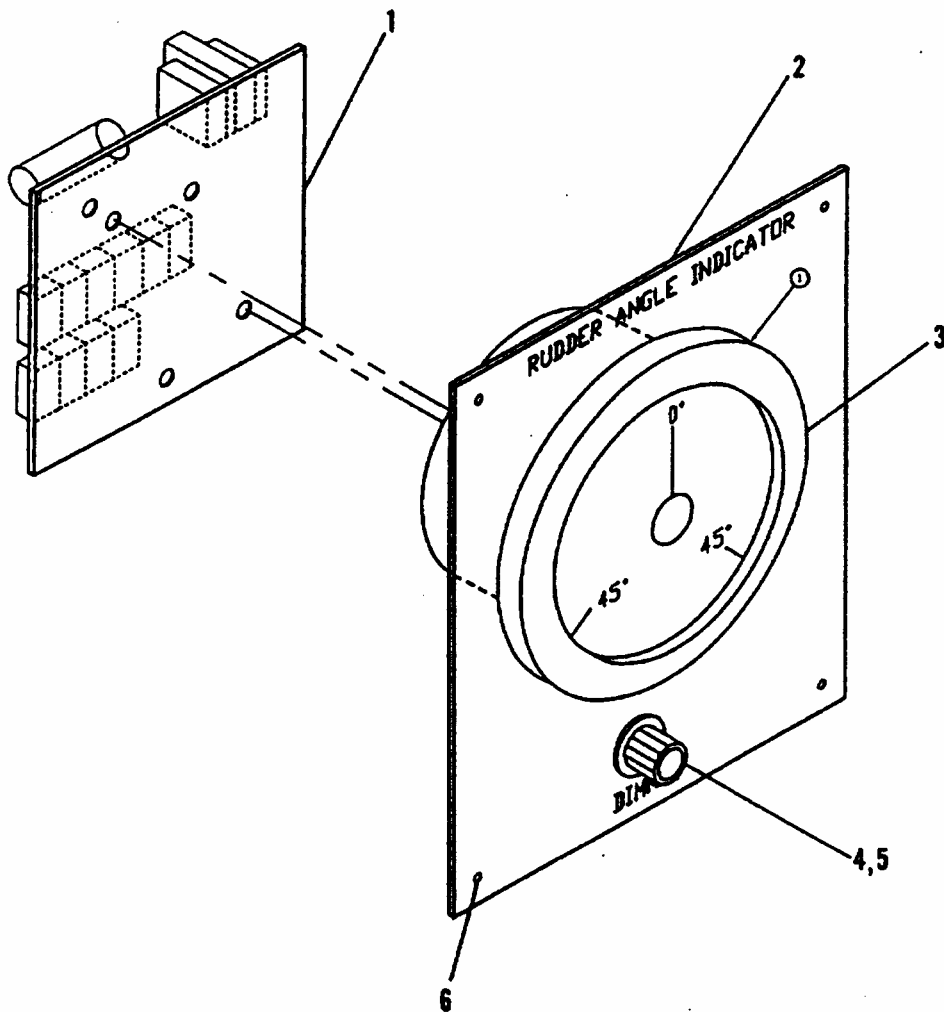

Figure 3-106.1. Rudder Indicator
**3-118.1. Replace/Repair Rudder Indicator (Figure 3-106.1)**
- a. Loosen two latching screws (3, Figure 3-106.1) securing starboard side access panel (2, Figure 3-106.1) to pilothouse control console (1, Figure 3-106.1).
- d. Remove four screws (6).
- e. Remove rudder indicator (2).
- a. Remove printed circuit board (1).
- b. Remove knob (4) and potentiometer (5).
- c. Remove meter assembly (3).
- a. Install meter assembly (3).
- b. Install potentiometer (5) and knob (4).
- c. Install printed circuit board (1).
- a. Install rudder indicator (2) into control console.
- b. Secure with four screws (6).
- c. connect wiring to rudder indicator (2) and remove tags.
- d. Close access panel (2, Figure 3-106.1) on control console (1, Figure 3-106.1) and secure with two latching screws (3, Figure 3-106.1).